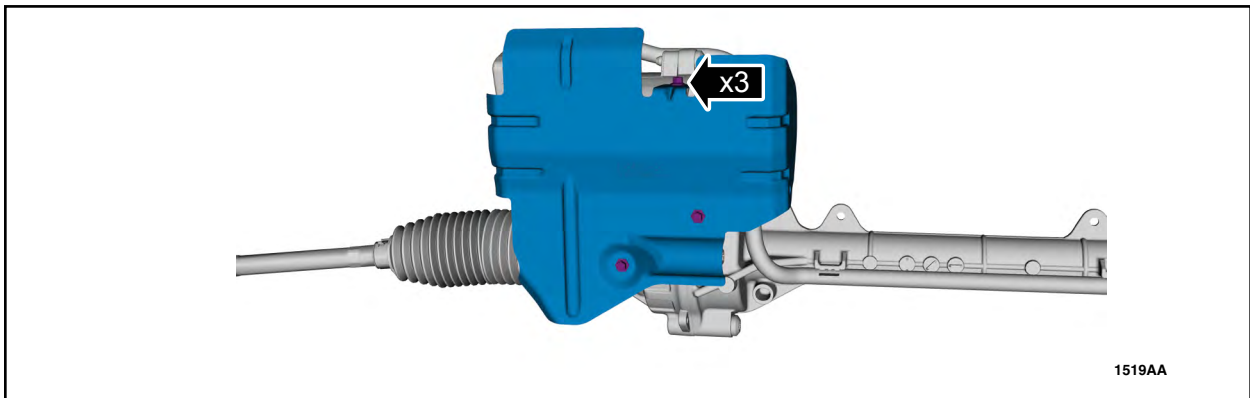

FIGURE 5
3. If equipped, remove the steering gear motor heat shield. See Figure 5.
1. If equipped, install the steering gear motor heat shield. See Figure 5.